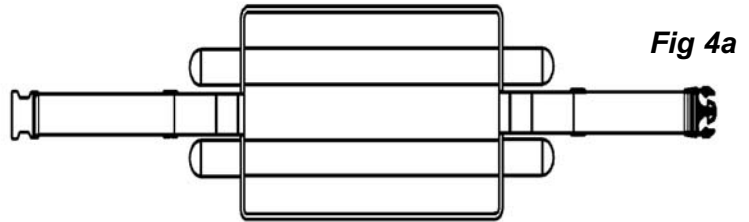

Fig 4a
6. Wrap around each velcroed end of both halves of the strap to the battery carrier and push velcro hooks and loops together to secure both halves of the hold down strap to the battery carrier as in Fig 4a. (strap adjusters facing downwards).